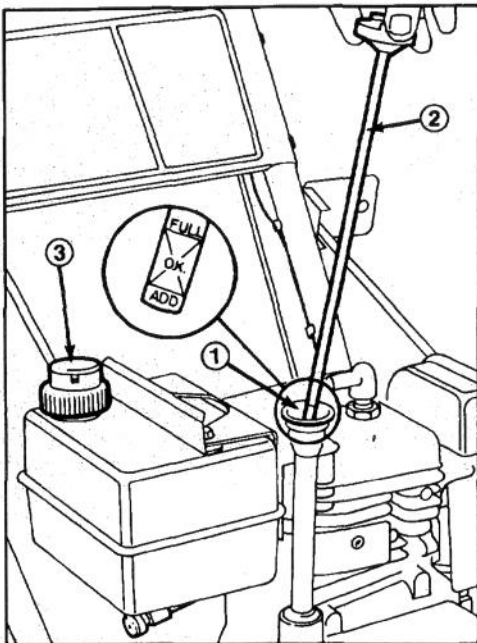

Figure 11
3. Remove dipstick from crankcase (Fig. 11).
4. Slowly, pour 21 ounces (0.621 l) of SAE 5W30 or SAE 10 oil into the filler hole (Fig. 11). The engine uses only high-quality detergent oil having the American Petroleum Institute —API— "service classification" SC, SD or SE.
1. Clean area around the fuel tank cap. Remove cap from fuel tank and fill tank to within 1/2 inch (13 mm) from the top with gasoline. Reinstall fuel tank cap (Fig. 11).